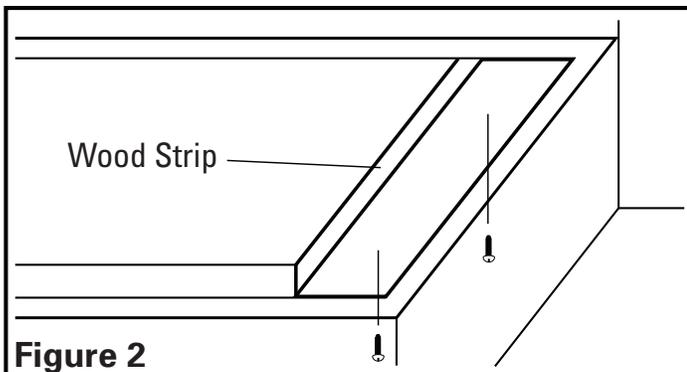

**Figure 1**
3. Remove the following items from the hood and place in a safe place until needed (**Figure 1**):